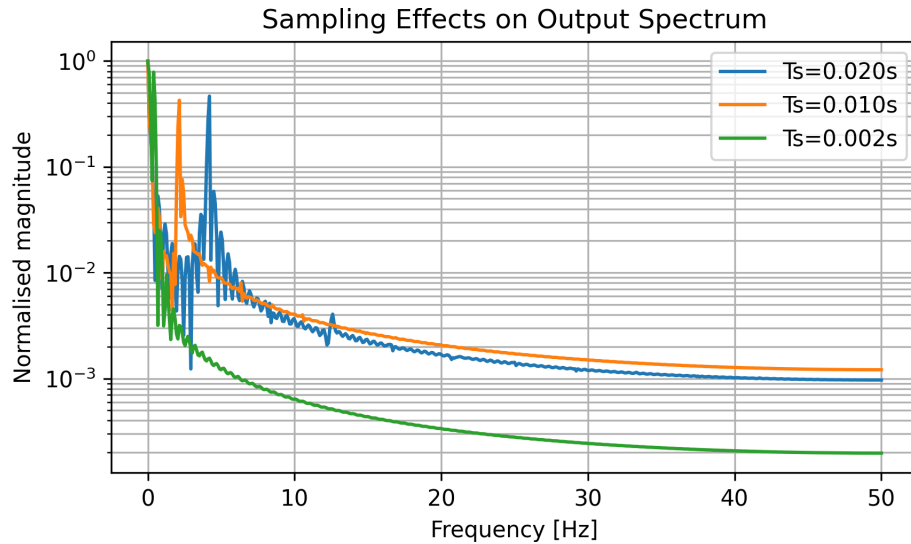

Figure 8.3: Output spectra for multiple sampling periods.
3. Examine Figure 8.3 to see how different sampling periods reshape the output spectrum, echoing the sampling guidelines of Åström and Hägglund [4].
- **Sampling:** check Nyquist ( $\omega_s > 2\omega_{\max}$ ) and preview aliasing via Figure 8.3; adjust  $T_s$  accordingly.